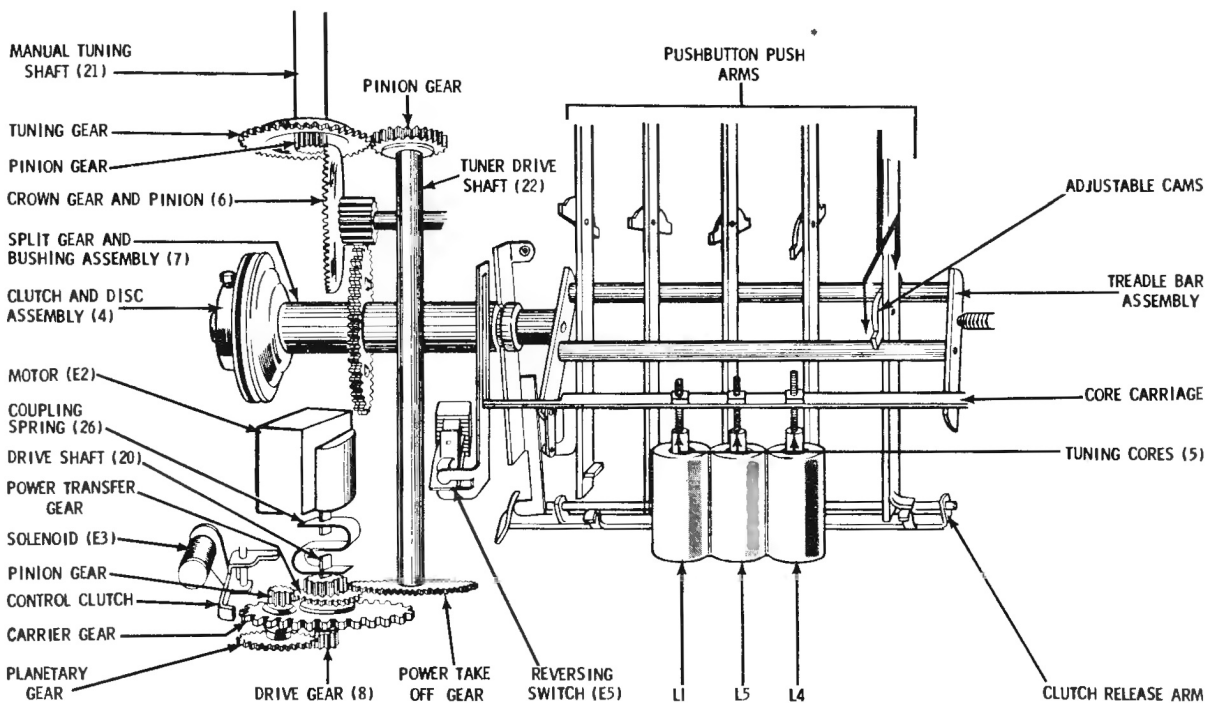

FIGURE 4. PUSHBUTTON TUNING
The power transfer is directly from the push arm to the treadle bar assembly (see Figure 4). When a pushbutton is depressed, the clutch release arm disengages the split gears and bushing assembly (7) from the clutch and disc assembly (4), allowing the treadle bar assembly to rotate without turning the manual tuning shaft (21). When the pushbutton is released the split gears and bushing assembly (7) and clutch and disc assembly (4) are engaged, holding the tuner on station.